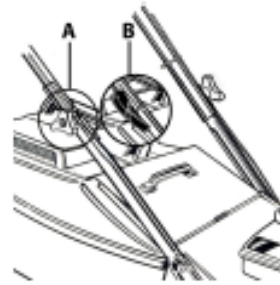

Figure 1.
- Loosen the two handle bar pivot bolt knobs (A) (where fitted).
- Fold the handle bars out straight, inline with the lower handle bars. Tighten the two handle bar pivot bolt knobs (A) or the camlocks (B) to secure the handle bars in position. Refer to figure 1.